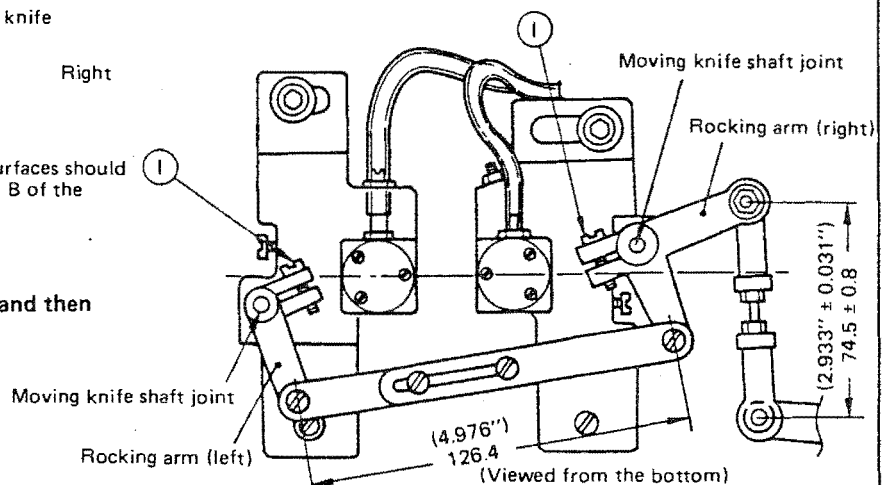

Fig. 29
<ol style="list-style-type: none"> 1. Loosen screws ① to release rocking arm (Fig. 29). 2. Adjust the position of the moving knife to the moving knife rest. 3. After the adjustment, push the pushing plate in the direction of the arrow in Fig. 30 and turn the handwheel toward you to check that the requirements have been met. (Repeat this procedure several times to make sure.) <p>(Caution) When tightening screw ① to fix the rocking arm, make sure that there is no clearance at the surface of the hook driving shaft saddle.</p> <div data-bbox="159 1680 829 2016"> <p>Pushing plate</p> <p>Cam follower pushing plate (asm)</p> <p>Thread trimmer cam</p> <p>Push in this direction</p> </div> <p>Fig. 30</p>	<p>If the moving knife juts out too much from the fixed knife;</p> <ul style="list-style-type: none"> ○ Thread trimming failure may occur. ○ The thread trimmer may fail to catch the thread. <p>If the moving knife juts out too little from the fixed knife;</p> <ul style="list-style-type: none"> ○ The thread trimmer may fail to catch the thread. ○ The machine may fail in making some starting stitches as illustrated below; <div data-bbox="1005 1500 1308 1657"> <p>(Failure in starting stitches)</p> </div> <p>* If bobbin thread catching failures occur when the feed dog has been replaced (especially when the feed dog with a round hole has been replaced by one with a slot), readjust the position of the moving and fixed knives (decrease the dimension 0.8 ± 0.4 ($0.031'' \pm 0.016''$))</p>